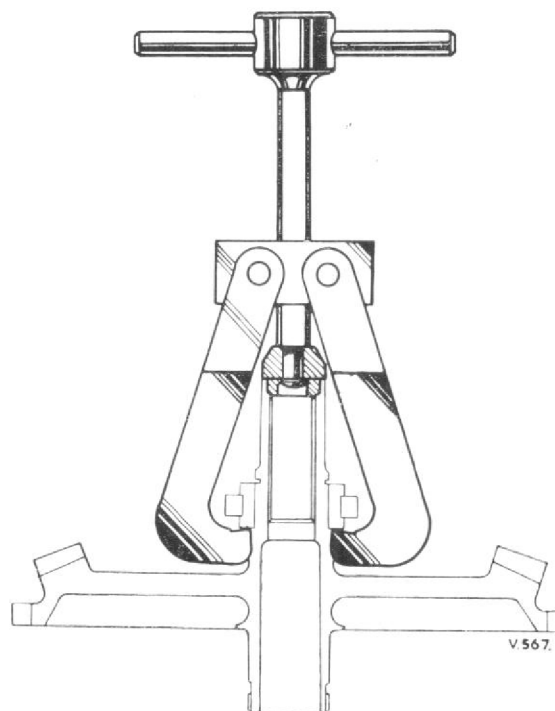

Fig. 6. Extractor T.77966 for removing hydraulic pump/fuel pump inner roller race from gear bearing.
2. Unscrew the centre screw of extractor T.77966 until the jaws of the two claws engage under the inner roller race and the reduced diameter of the centre screw pad fits in the end of the gear, Fig. 6.